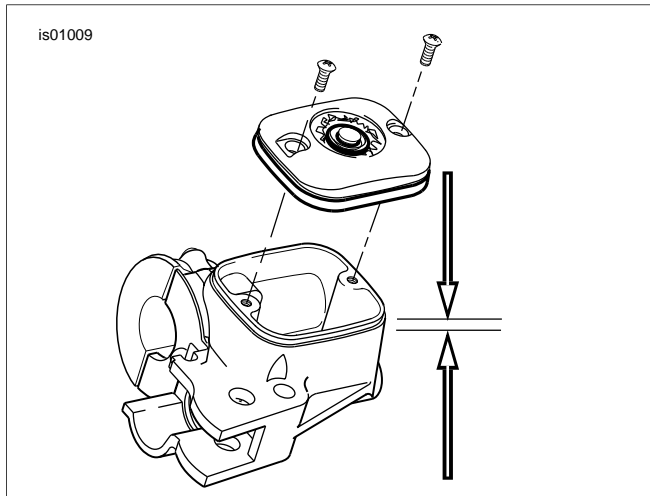

Figure 6. Reservoir Fill Level 1/8 in. (3.2 mm) Below Gasket Surface
8. See Figure 6. Add the correct type of BRAKE FLUID to the master cylinder reservoir until the fluid level is 1/8 inch (3.2 mm) from the top. Do not reuse old brake fluid. Use only D.O.T. approved brake fluid from a sealed container.